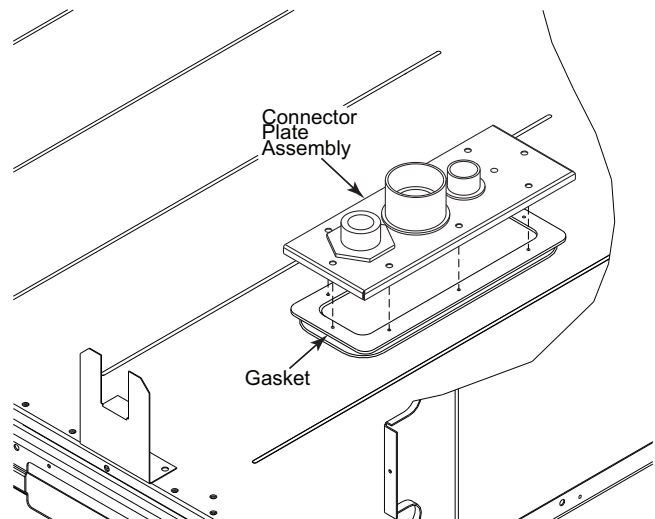

Fig. 30 — Completing Installation of Thru-the-Base Option
4. Place the gasket over the embossed area in the basepan, aligning the holes in the gasket to the holes in the basepan. See Fig. 30.